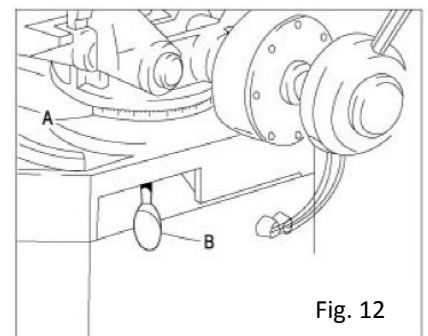

Fig. 12
2. Now turn the saw in an angle upto 45° to the left or right, the angle is shown on the scale (A,fig.12) on the machine base.